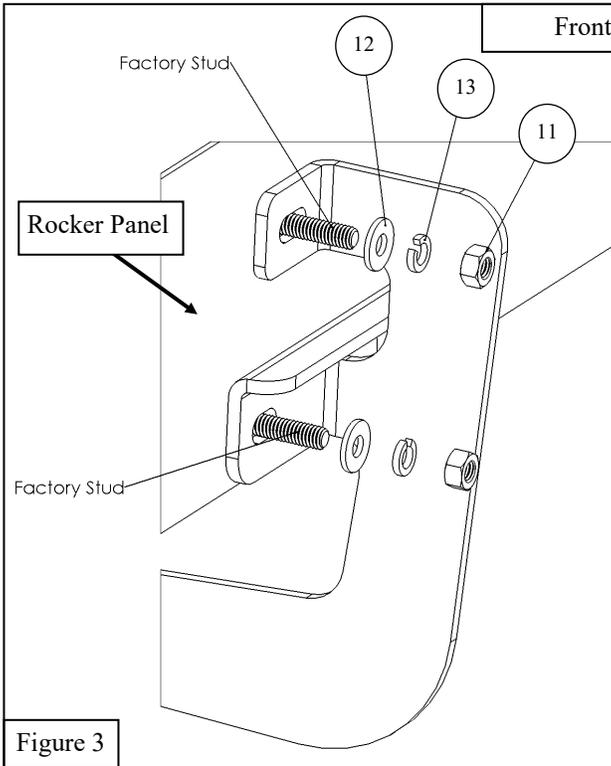

Figure 3
- At the rear mounting location, loosely install the Rear Passenger Mounting Bracket (Item 6) with preassembled Mounting Bracket Base (Item 5) using the supplied M8 hardware. See **Figures 3 & 4** for reference.